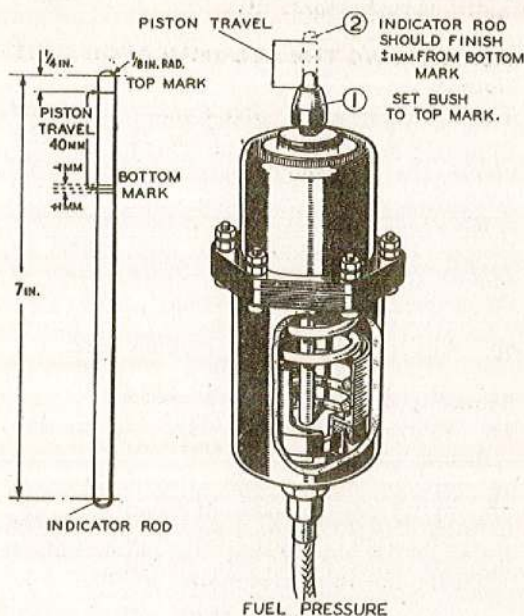
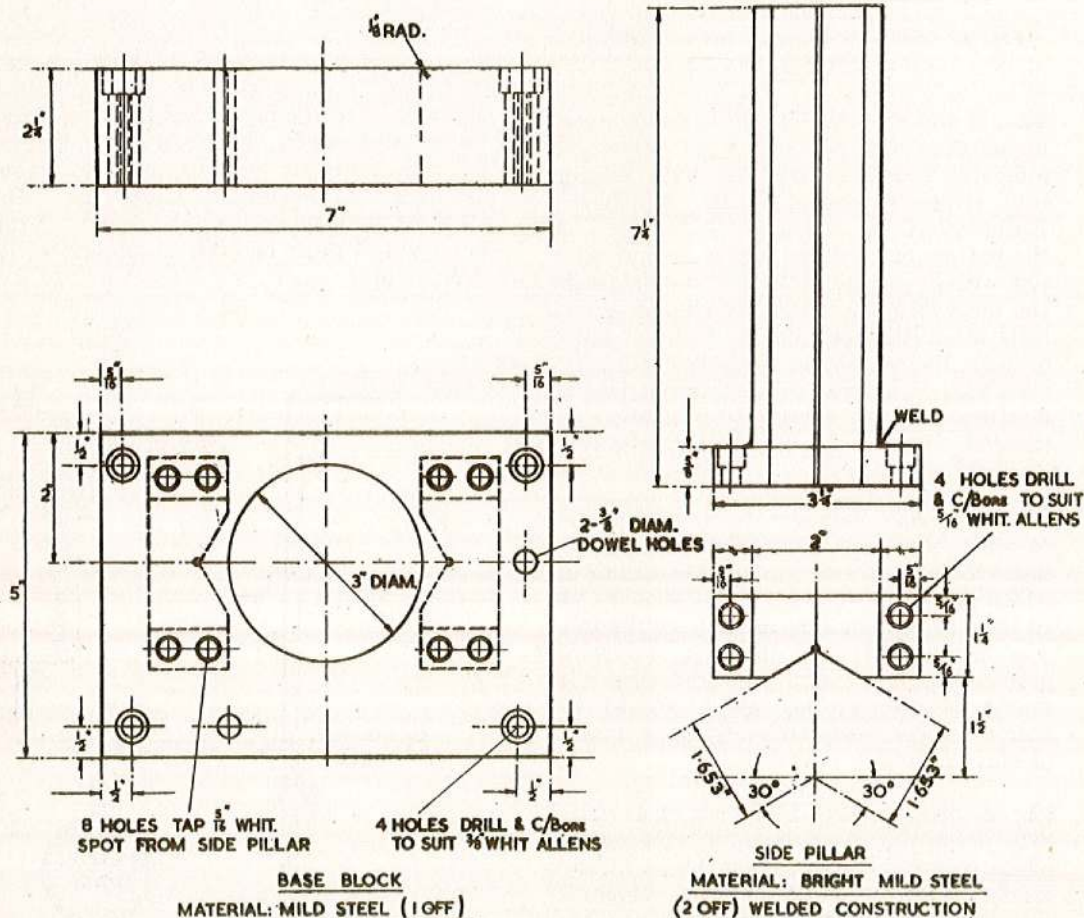
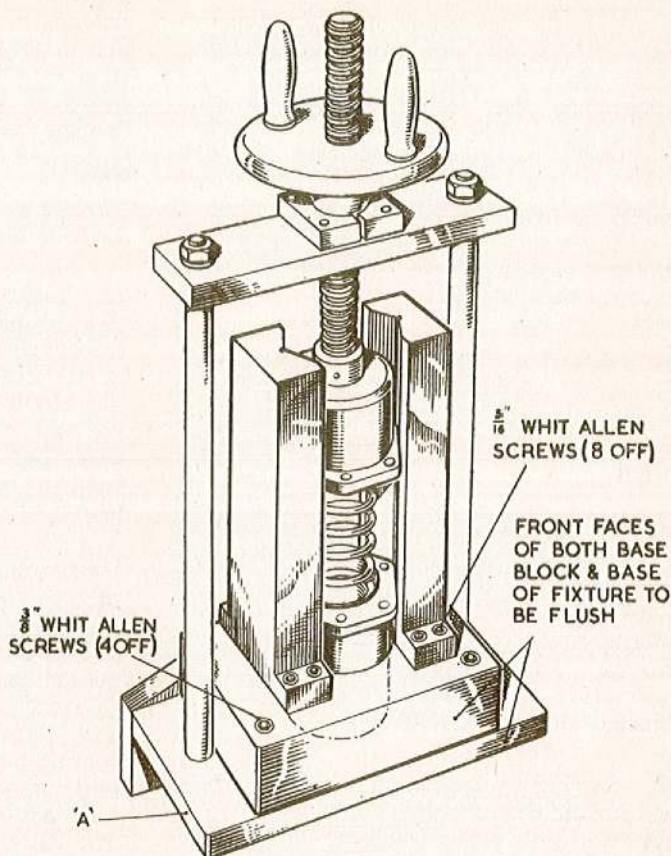

Fig. 2. Indicator rod and view of piston travel check
FIG. 4 BASE BLOCK AND SIDE PILLARS FOR STRIPPING AND ASSEMBLING FIXTURE
Fig. 5. Stripping and assembling fixture with base block and side pillars fitted
5. Special tools and a test rig are required for the repair and overhaul of the accumulator unit. The tools required are listed below, and fully dimensioned drawings are given in fig. 2 and 4 for the tools which are to be manufactured locally. It should be noted that the assembling, dismantling jig, the protective guide and indicator rod bush and locking ring are the same as those described in Chapter 1 of this section. When using the assembling and dismantling jig, it will be necessary to use in conjunction with it the V guide and base illustrated in fig. 4.
The indicator rod illustrated in fig. 2 must be used for checking the piston travel of this type accumulator. The indicator rod bush and locking ring are the same as those shown in Chapter 1 of this section.
10. Mount the unit on the rig and connect up as shown in fig. 2 and 3. Screw the indicator rod bush together with locking ring a few threads into the top cover. Ensure that the accumulator piston is at the bottom of its stroke, lower the indicator rod, with its graduations uppermost, through the bush into the unit, until the lower end rests inside the accumulator piston. Raise or lower the bush by turning either counter-clockwise or clockwise until its top face is in alignment with the upper graduation on the rod. Lock bush by screwing the ring nut on the cover.
21. The dismantling and assembling jig, illustrated and described in Chapter 1 of this section, is used for stripping the accumulator. In addition to this jig, the base block and side pillar assembly (fig. 4 and 5) is required to locate the accumulator. This assembly is to be located on the fixture by two dowels and secured by four screws (fig. 5). The cross bar of the fixture will have to be removed when inserting and removing the accumulator. Unscrew the centre spindle of the jig and place the stand in position, place the accumulator in the stand, with the main body downwards, ensuring that the centre spindle of the jig is aligned with the central boss in the main body, and the corners of the flange correctly located with the V-shaped recesses in the locating pillars. Screw down the central spindle until it contacts the boss in the top cover.
38. Lower the main body of the accumulator, together with piston assembly, into the fixture (fig. 5) and refit the spring, spring plate and top cover by reversing the procedure described in para. 21 and 22. It is important, when assembling, to ensure that the spring locates correctly with the recessed piston and top cover. Remove the assembled unit from the fixture.